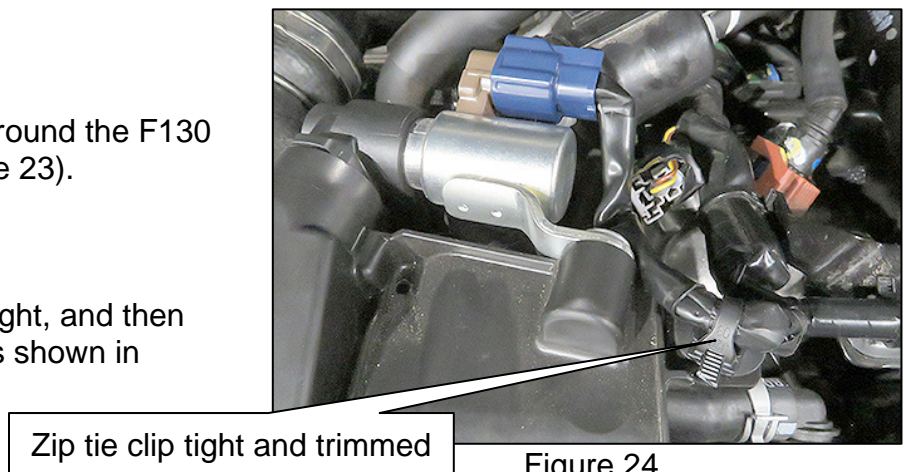

Figure 24
24. Draw the zip-tie clip tight, and then trim off the excess, as shown in Figure 24.